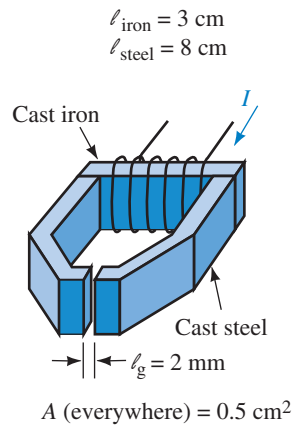

FIGURE 12-51
21. For the circuit of Figure 12-51, $\Phi = 30\text{ }\mu\text{Wb}$ and $N = 2000$ turns. Neglecting fringing, find current I .